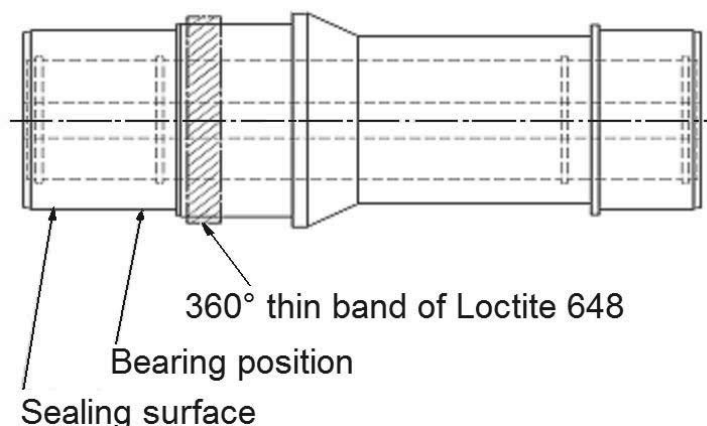

Figure 8.4
- 8.3.4. Clean the gear wheel seating on the hollow shaft (2) with suitable approved solvent. Apply a thin band of Loctite 648 around the hollow shaft as shown on figure 8.4. Clean away any excess Loctite.